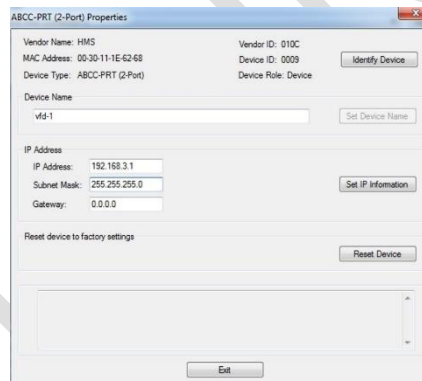

Figure 36: Set Device Name &amp; (Optionally) IP Address
- 7) Assign a valid Device Name (Figure 36) by keying in a suitable Device Name, then click on the *Set Device Name* button. Device names permitted consist of lower case alphas, combined with digits and hyphens. In the event an incompatible character is entered, the *Set Device Name* button will be grayed out.
- 8) It is possible to manually enter the IP Address and Subnet Mask on the same form (Figure 36). However, this can be done automatically at a later stage, and waiting till then will avoid the chance of assigning conflicting IP Addresses, which the network cannot tolerate.